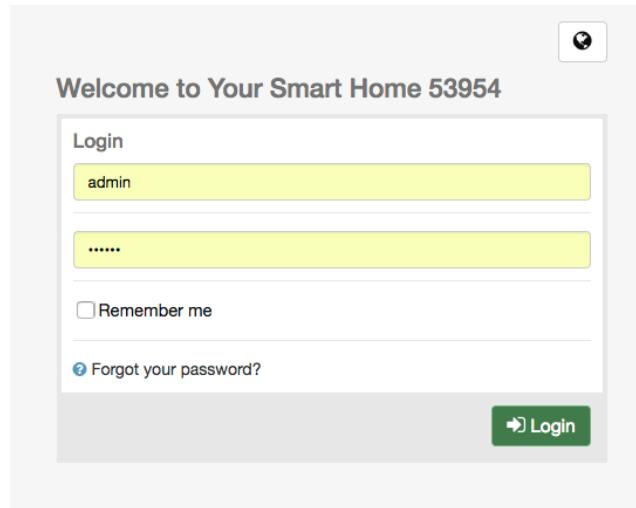

Figure 3.9: Login on local IP address
- In case you use the service from a PC or a mobile phone within your home, the service will detect this and show the IP addresses of your Z-Way™ controllers. It is possible that a Z-Way™ controller has two IP interfaces (Ethernet + Wi-Fi). In this case, both addresses are shown. Clicking on the IP address will lead to the local IP login screen, as shown in Figure 3.9, where only name (e.g. admin) and password are required.